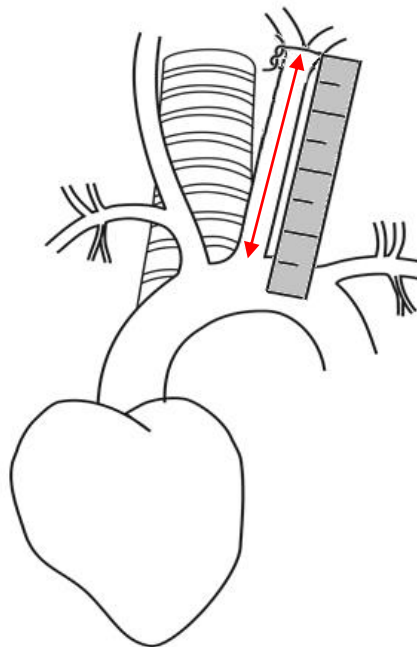

Figure 4: Measure from suture to top of arch
15) Measure in millimeters from the carotid bifurcation suture to the junction of the carotid artery and aortic arch. Record this measurement. (Figure 4)